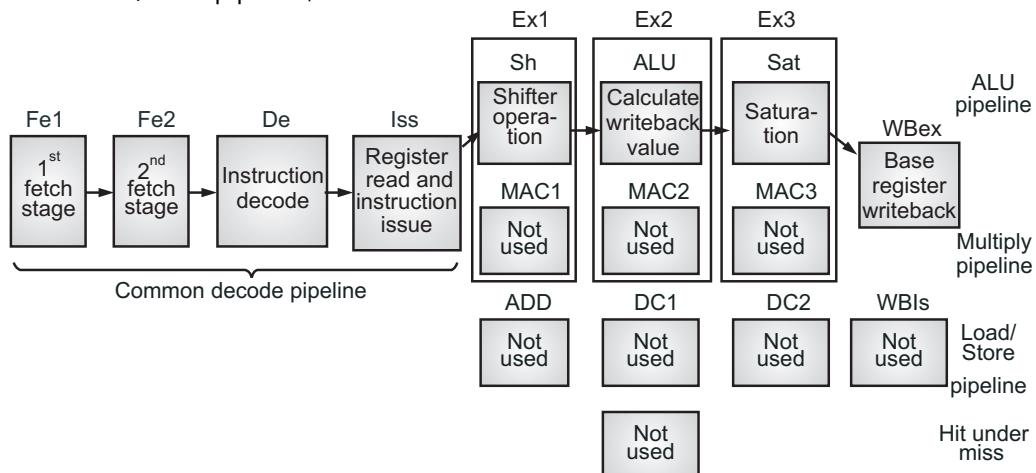

Fig. 2.10 : Typical ALU operations in pipeline stages
- Below Fig. 2.10 shows all the operations in each of the pipeline stages in the ALU pipeline, the load/store pipeline, and the HUM buffers.
- Below Fig. 2.10 shows a typical ALU operation and data processing instruction. The processor does not use the load/store pipeline or the HUM buffer.